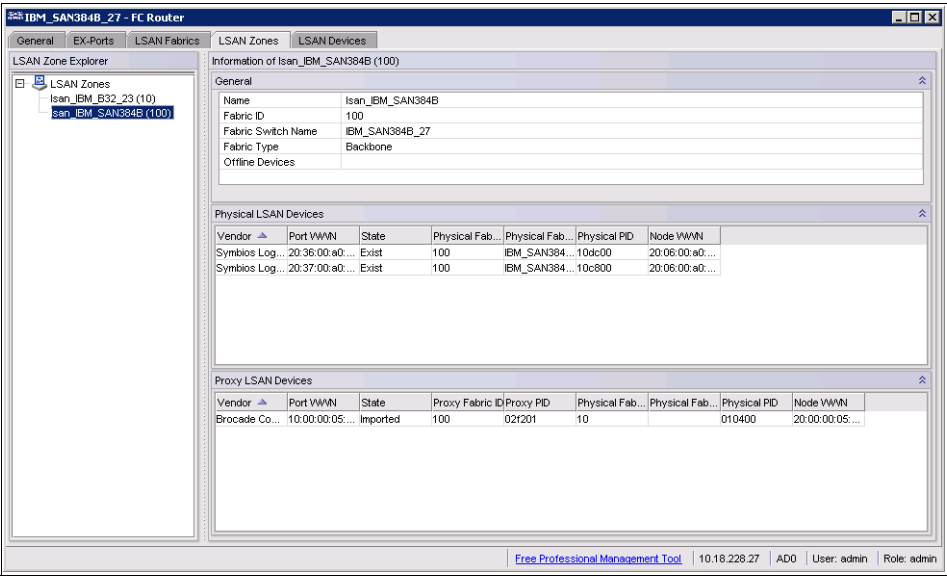

Figure 9-17 LSAN Fabric at the backbone
2. Verify LSAN Fabric at the backbone. Select the LSAN Fabric tab, as shown in Figure 9-17, and select the backbone fabric.